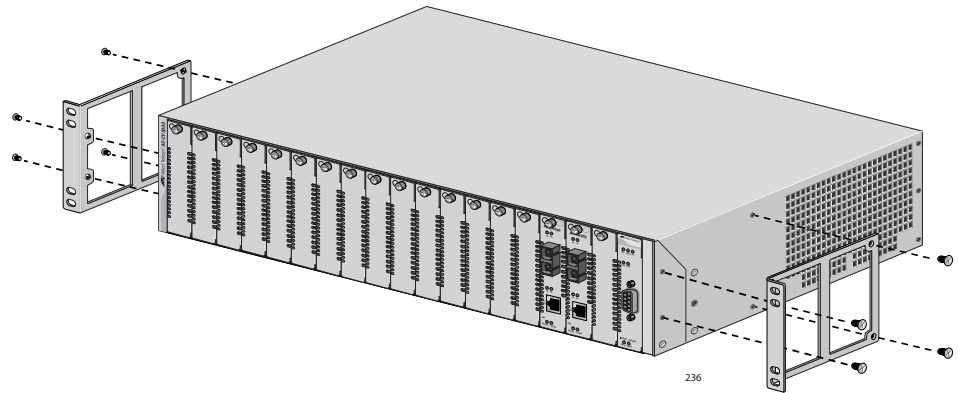

Figure 18. Installing a Bracket to the Chassis
2. Attach the brackets to the sides of the chassis using four screws (provided) on each side, as shown in Figure 18